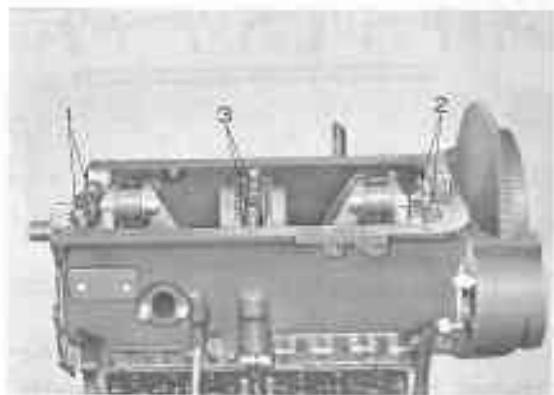

Fig. 3-8 Cap Bolts Loosening Order
38. Remove the crankshaft bearing caps together with the bearings. When loosening the cap bolts, follow the order of the numbers as shown in figure 3-8 in three progressive steps.